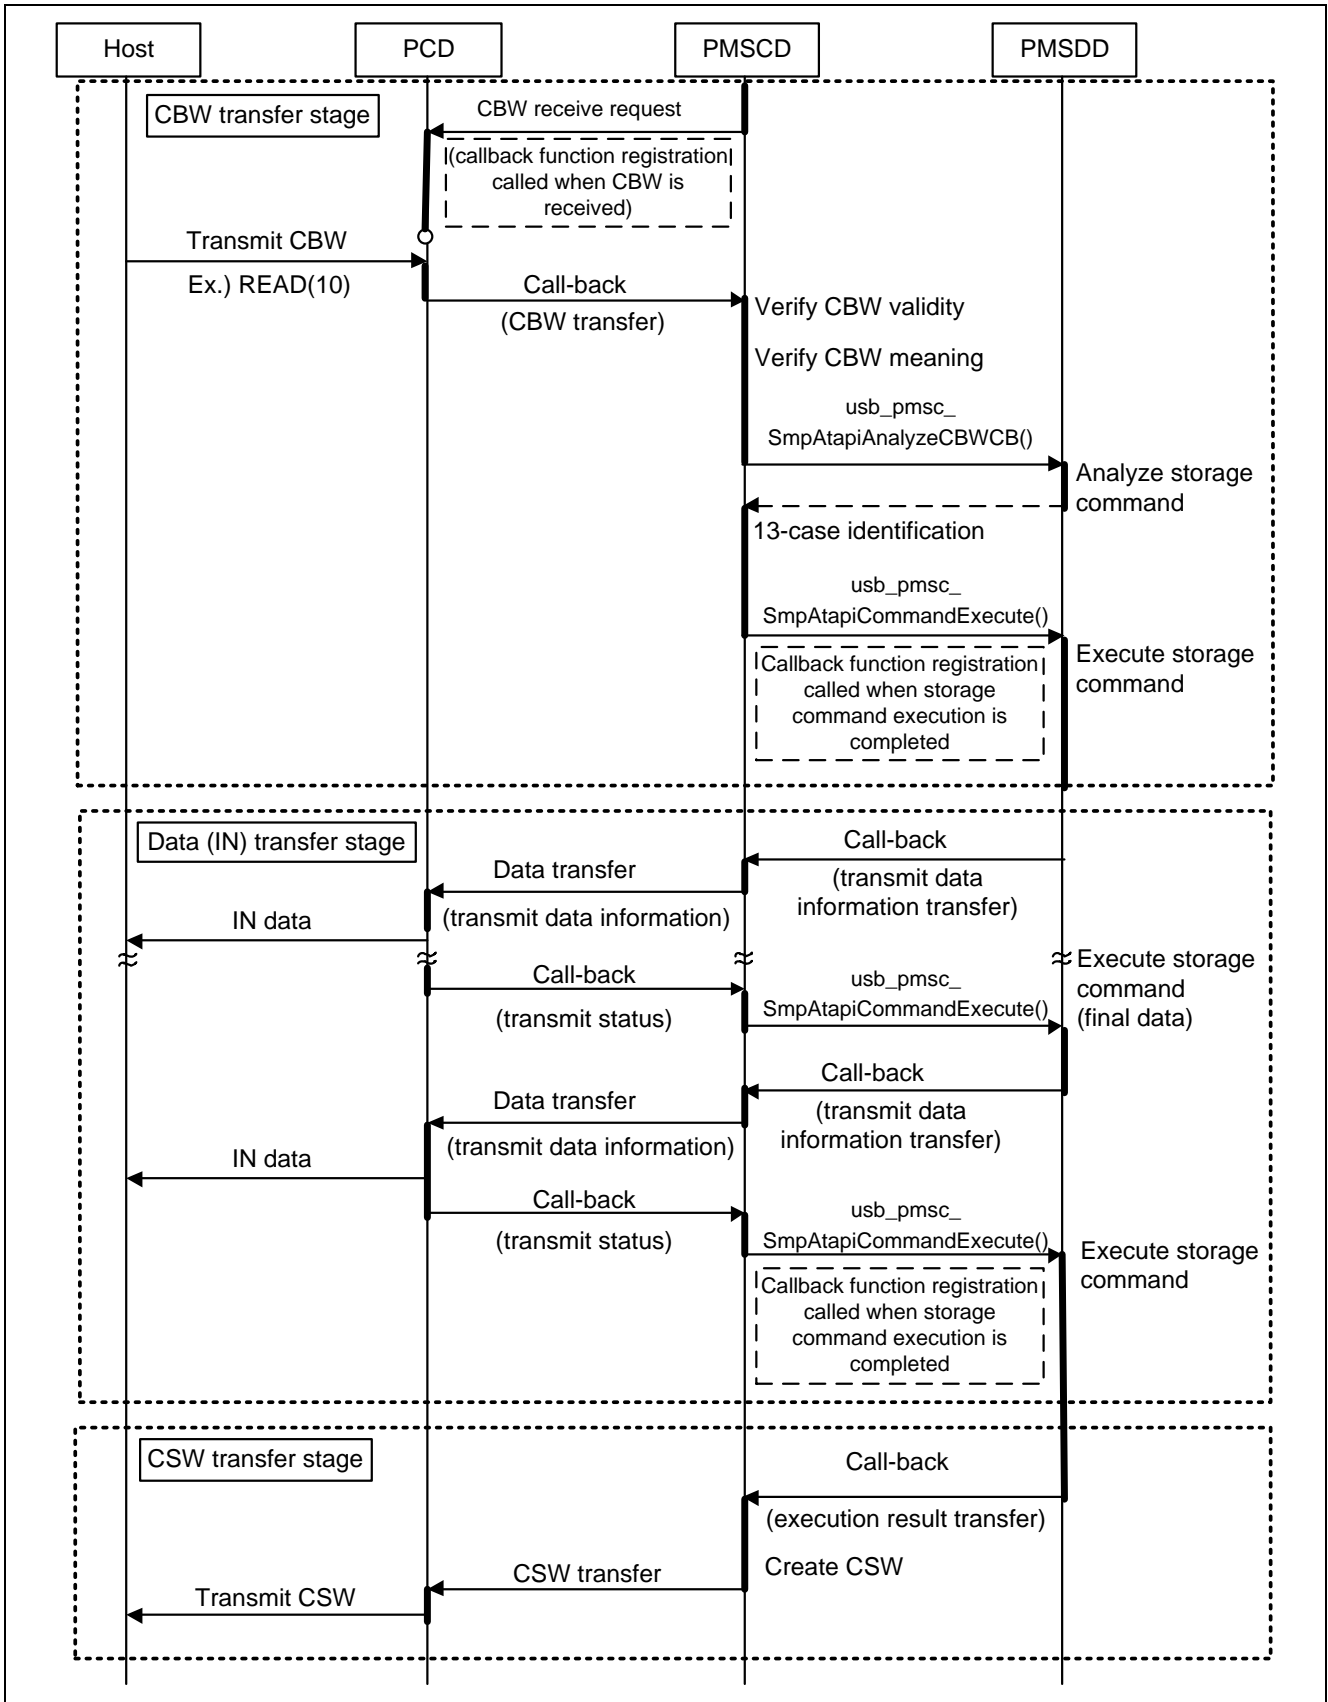

Figure 5-3 Sequence of Storage Command for Transmit (IN) Data
5.2.3 Sequence with storage command for transmit (IN) data
Figure 5-3 shows the sequence of storage command when there is transmit (IN) data from the peripheral side.